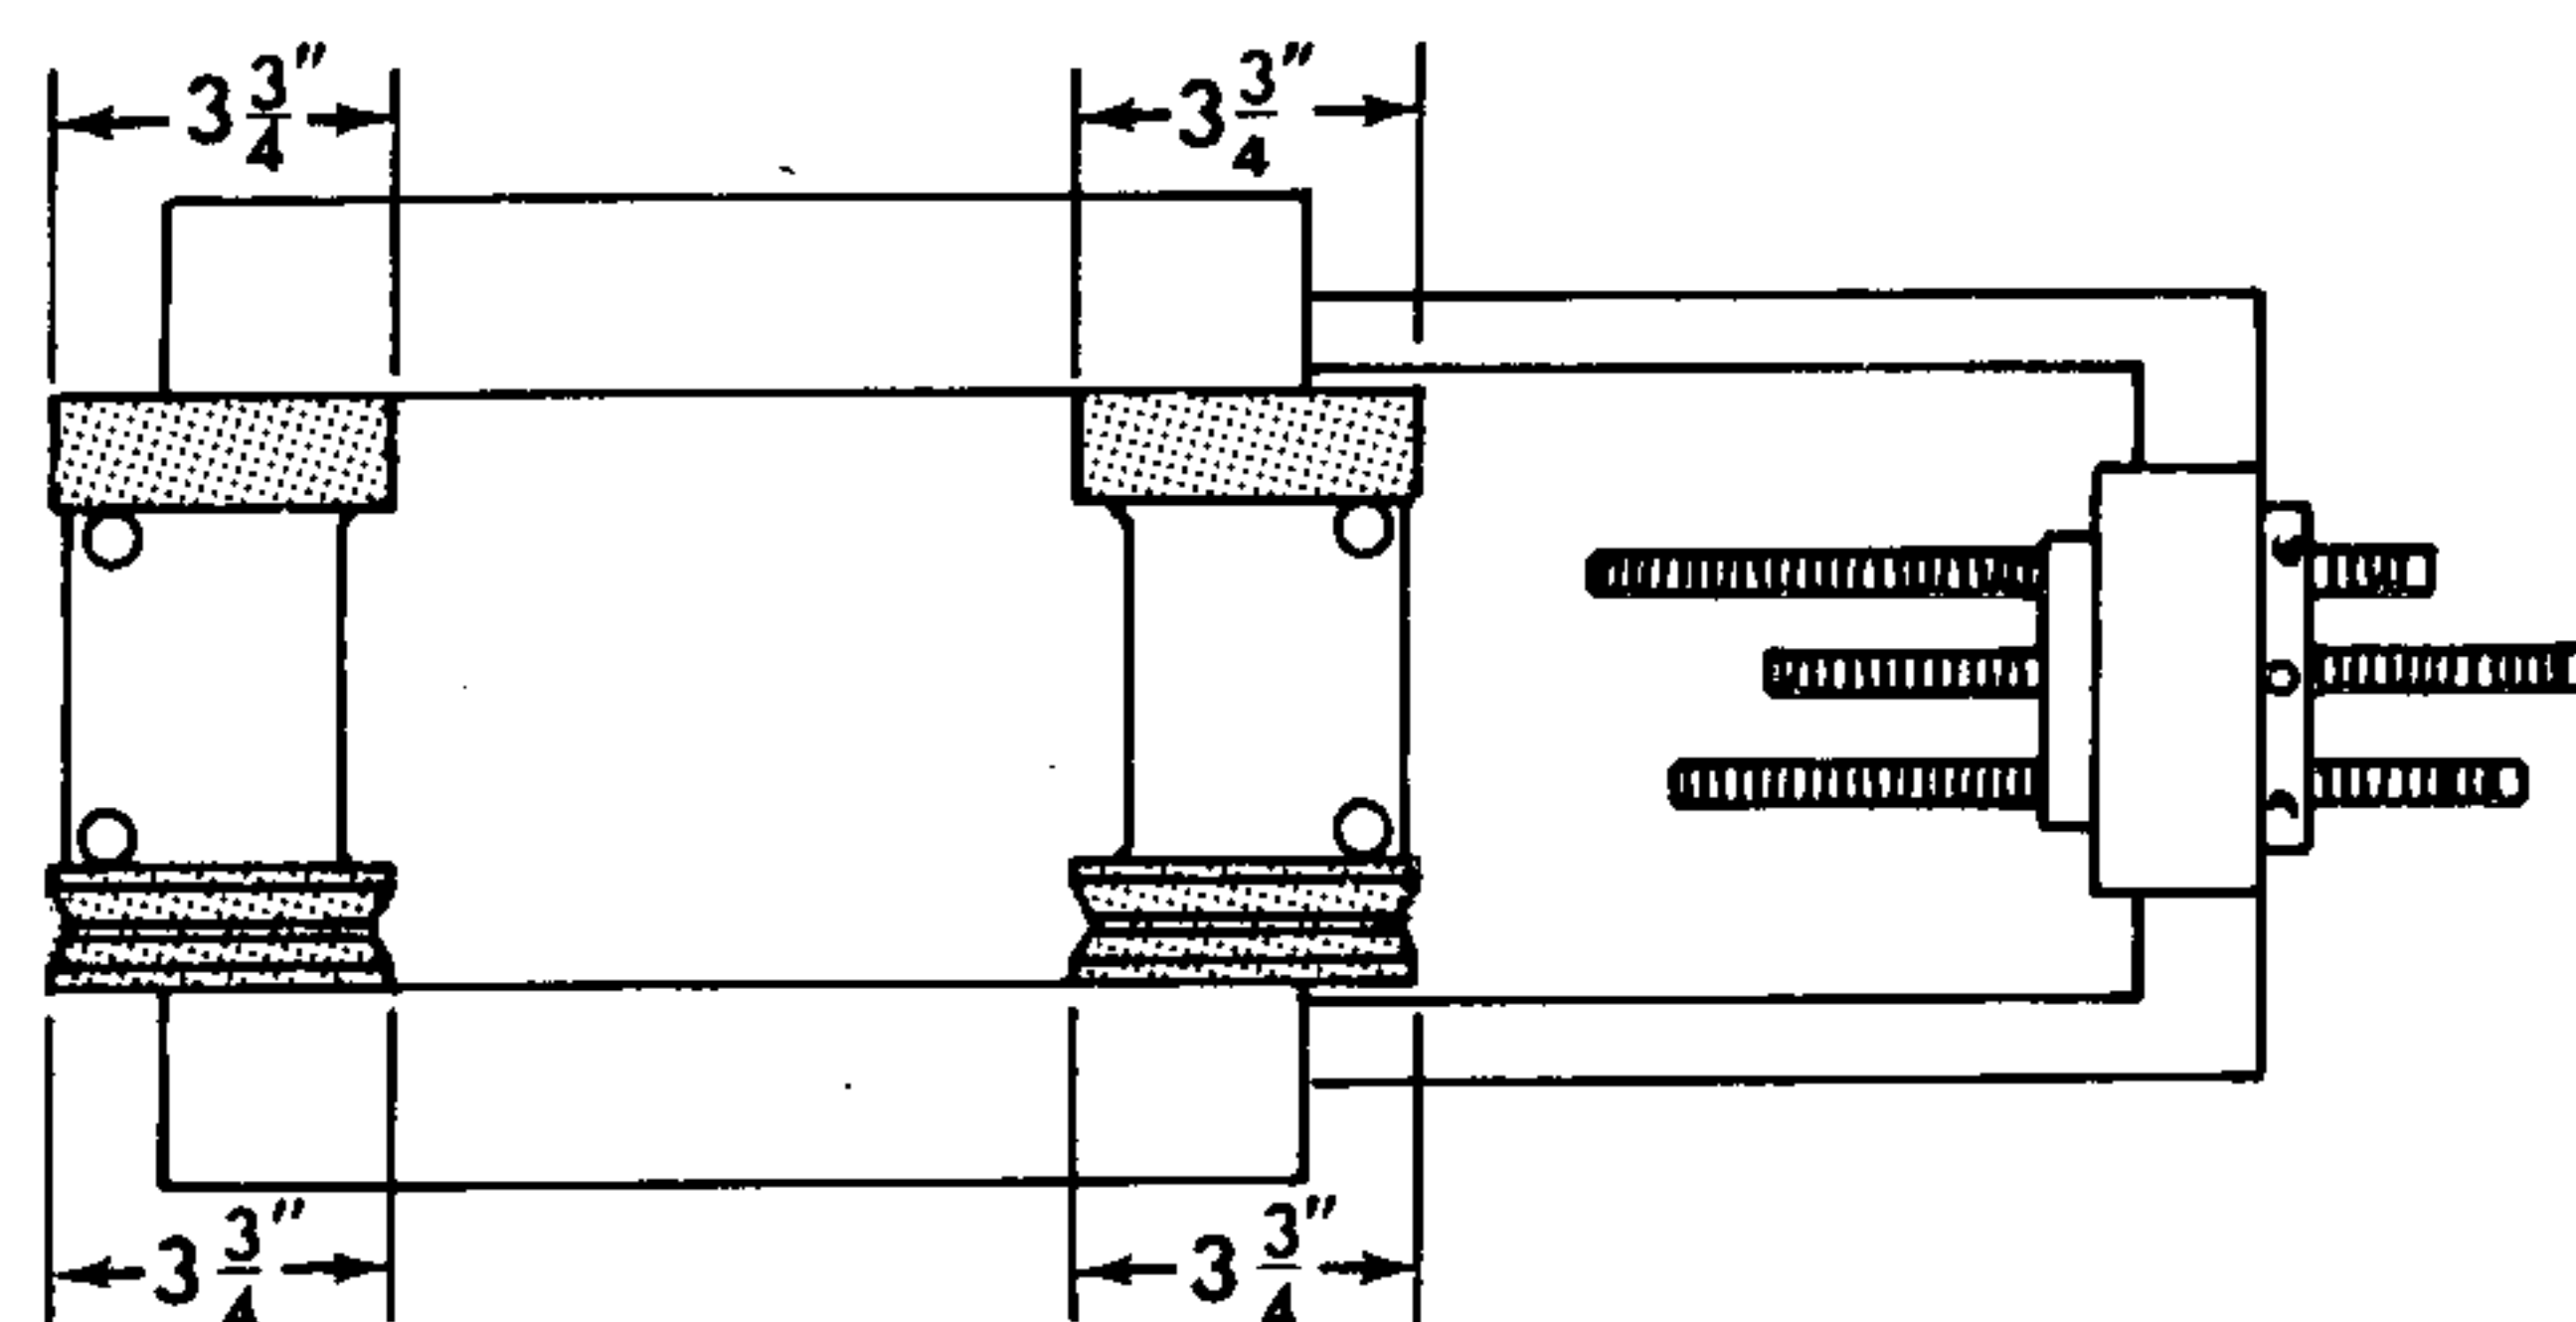

Figure 1
7. Scrape high spots just enough to remove blueing – then place turret back on lathe and check again as in steps 5 and 6. Repeat this procedure until bearing pads bear  $3\frac{3}{4}$ " as shown in figure 1.